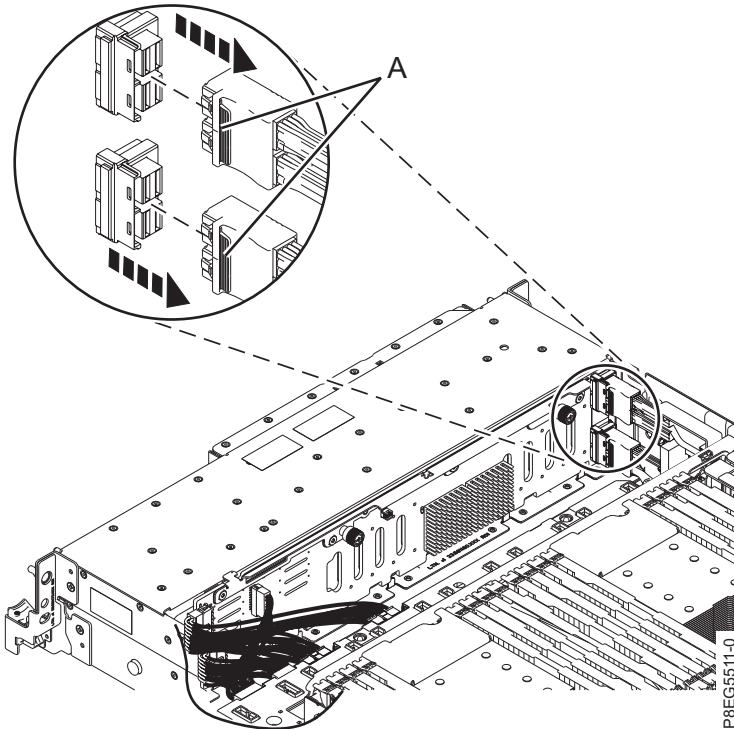

Figure 106. Disconnecting the front SAS cables
3. Label the front SAS cables, paying attention to the connectors each cable attaches to on the disk drive backplane and the SAS RAID internal adapter. Disconnect the front SAS cables from the disk drive backplane by pressing the latch (A) and unplugging the cable. See Figure 106 on page 110.